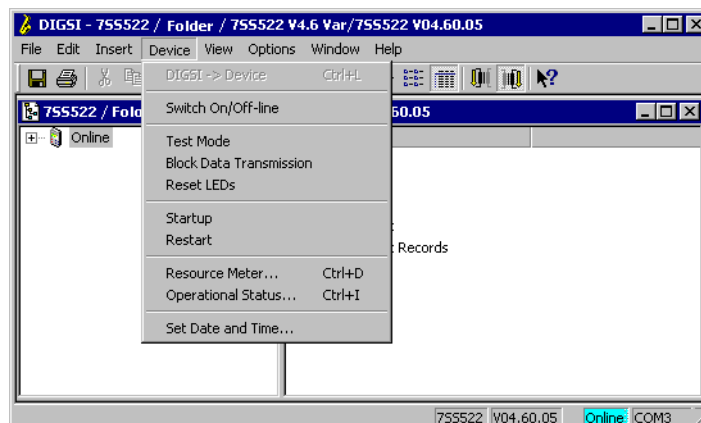

Figure 6-25 Selecting the Set date & time command
- Click **Device** → **Set Date & Time** (see Figure 6-25, page 271). The dialog box **Set clock & date in device** opens. The displayed values show the actual date and about the actual time. The day is determined automatically from the date and cannot be edited.